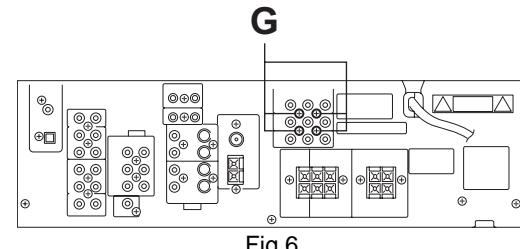

Fig.6
- From the back side of the main body, remove the four screws **G** attaching the component board. (See Fig.6)